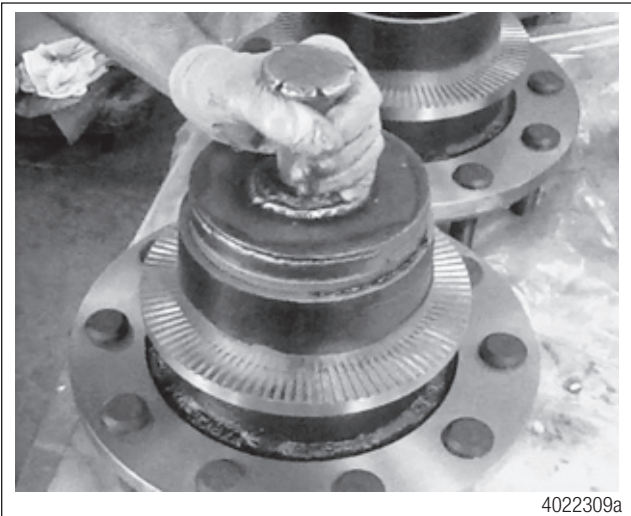
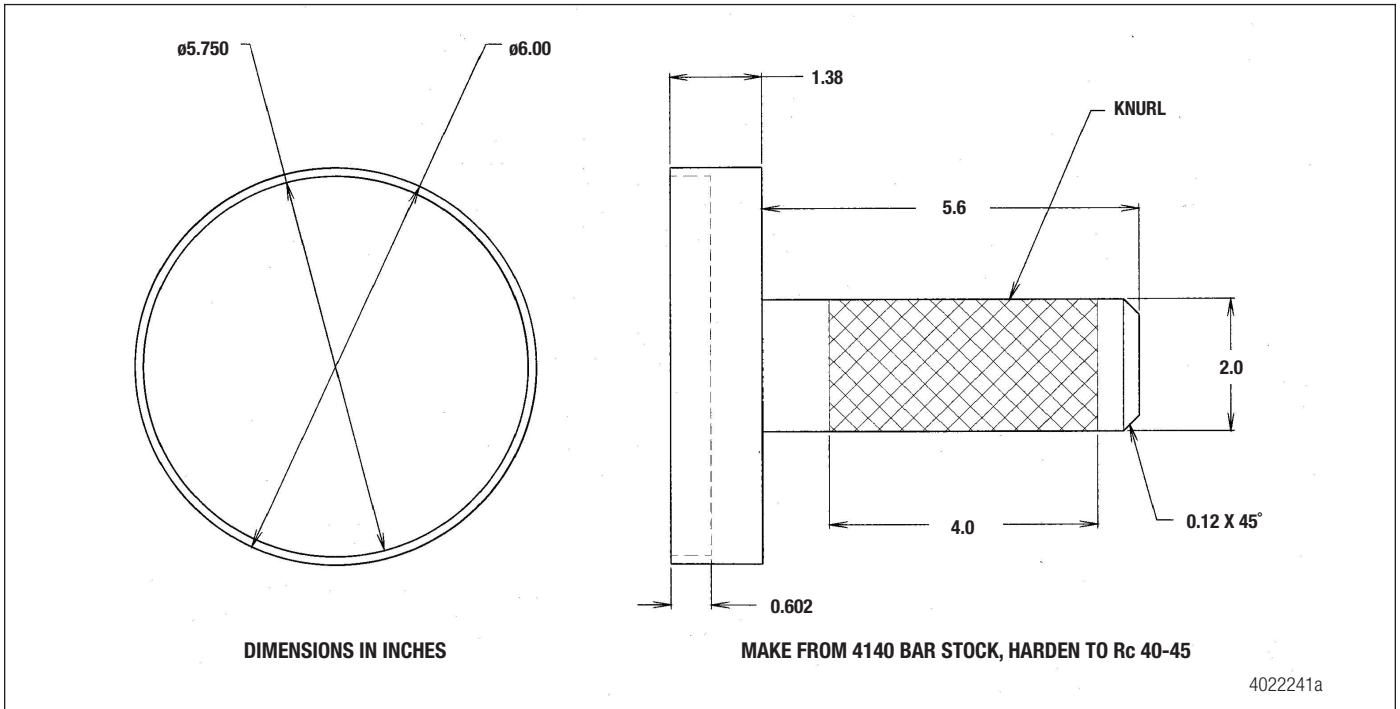

Figure 21
Figure 41
5. Use hub seal driver (866-0707) to drive the seal on the hub assembly until completely seated. Figure 21. Refer to Figure 41 for a tool drawing.